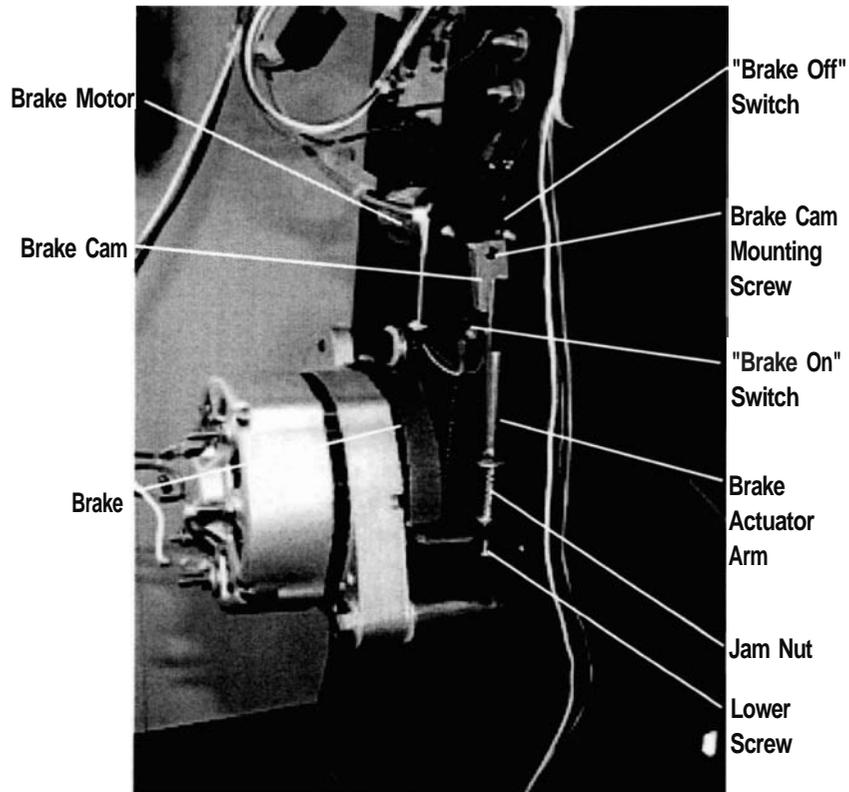

Figure 15: Brake Location
3. Loosen the jam nut from the center of the actuator arm, and remove the lower screw (see Figure 15).
5. Use the brake actuator spring nut and/or the lower mounting nut to adjust the throw on the arm to properly engage/disengage the brake (see Figure 15).
6. Use the brake actuator spring nut and/or the lower mounting nut to adjust the throw on the arm to properly engage/disengage the brake (see Figure 15).
4. Use the brake actuator spring nut and/or the lower mounting nut to adjust the throw on the arm to properly engage/disengage the brake (see Figure 15).
5. Use the mounting screws to adjust the upper and lower limit switches so that the brake cam triggers the limit switches first before it hits the mechanical stops (see Figure 15).